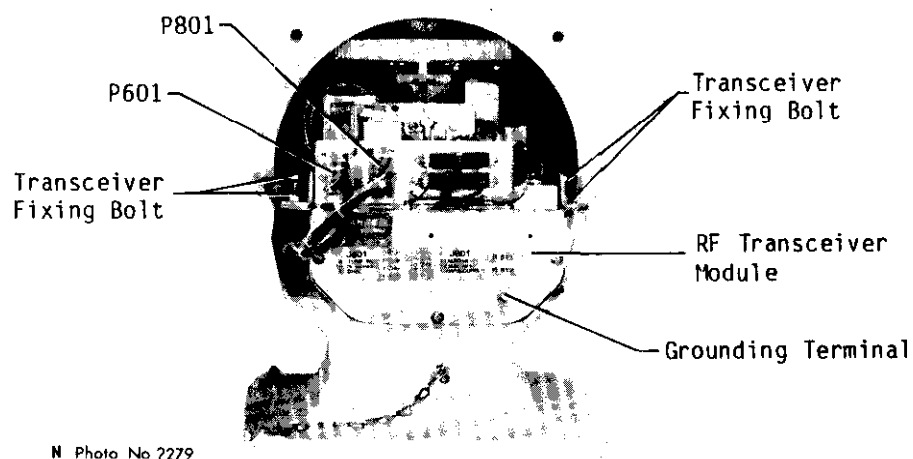

Fig.5-3 Scanner Unit (Front cover opened)
7. Open the scanner housing covers by removing the four bolts. Remove four transceiver fixing bolts and disconnect plugs P601 and P801; take out the transceiver module. See Fig.5-3 on page 5-6.